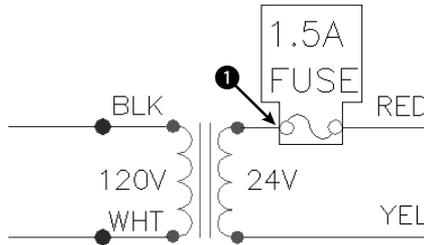

Figure 18-4: A portion of an electrical schematic.
2. Save the file as `ab18-01.dwg` in your AutoCAD Bible folder. This is a small portion of an electrical schematic drawing, as shown in Figure 18-4. OSNAP should be on. Set running object snaps for endpoint, quadrant, and intersection.
6. Select the boxed objects shown in Figure 18-4 (the two lines of text, the two circles, and the two arcs). Press Enter to end selection and return to the dialog box. Under the Select Objects button, the dialog box displays `6 objects selected`.
8. In the drawing, use the Quadrant object snap to pick **1** in Figure 18-4.